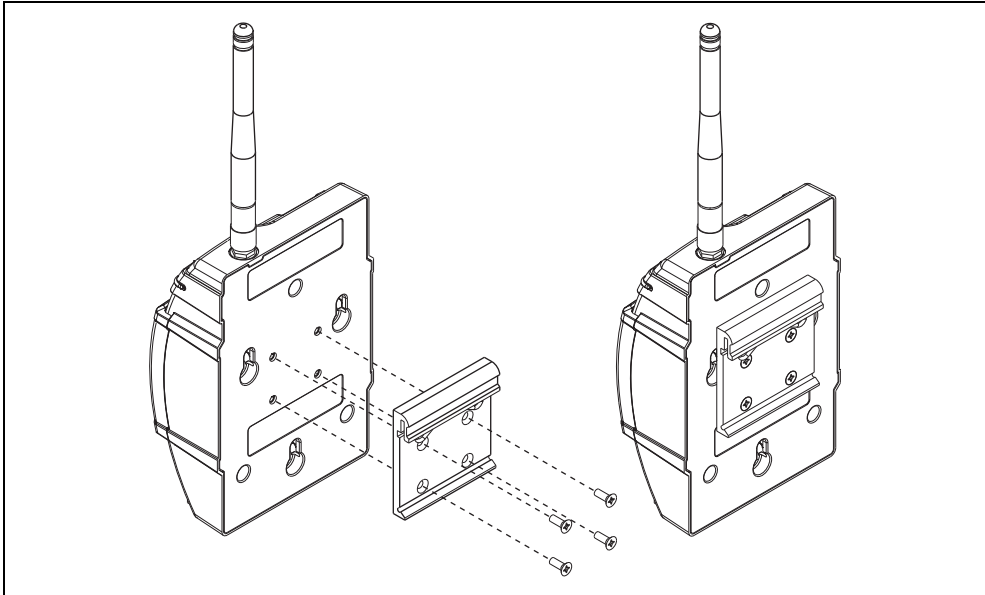

Figure 5. NI WSN-3212 Device DIN Rail Installation
1. Fasten the DIN rail clip to the NI WSN-3212 using a number 2 Phillips screwdriver and the four 8-32 \times 5/16 in. thread-forming screws that shipped with the DIN rail clip(s). Figure 5 shows how to fasten the DIN rail clip to the NI WSN-3212.